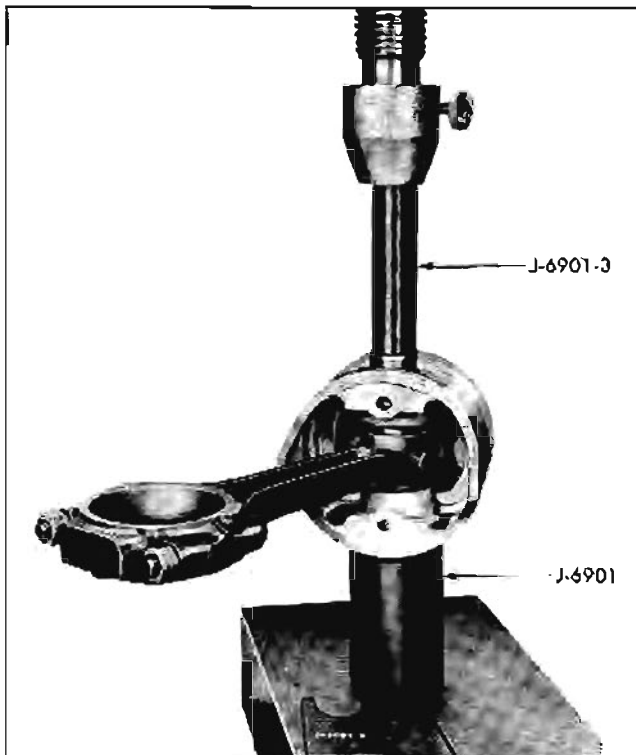

Fig. 6-57 Installation of Piston Pin
1. Place plunger and spring in tool J-6901 (Fig. 6-57) to be used as a pilot and stop.
4. Place tool J-6901-3 in piston pin and press pin into piston and connecting rod (Fig. 6-57) until piston pin bottoms against plunger of tool J-6901. Piston must turn freely on pin. If piston binds on pin, disassemble, hone piston pin bosses slightly and reassemble.